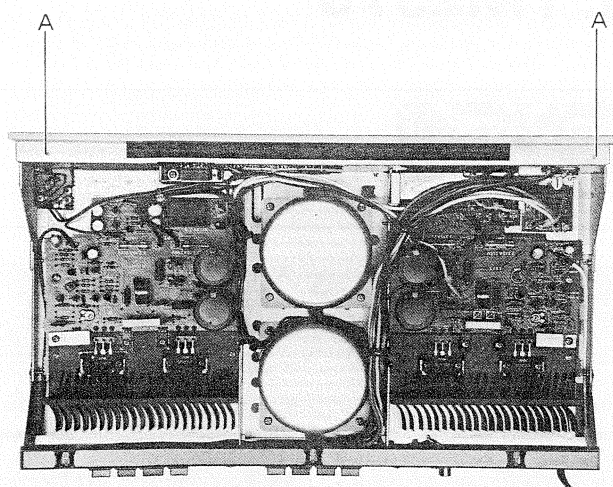

Figure 1
(3) Front panel removal
Remove four screws (A) from the top and bottom as shown in Figures 1 and 2, and the front panel with push buttons can be removed.